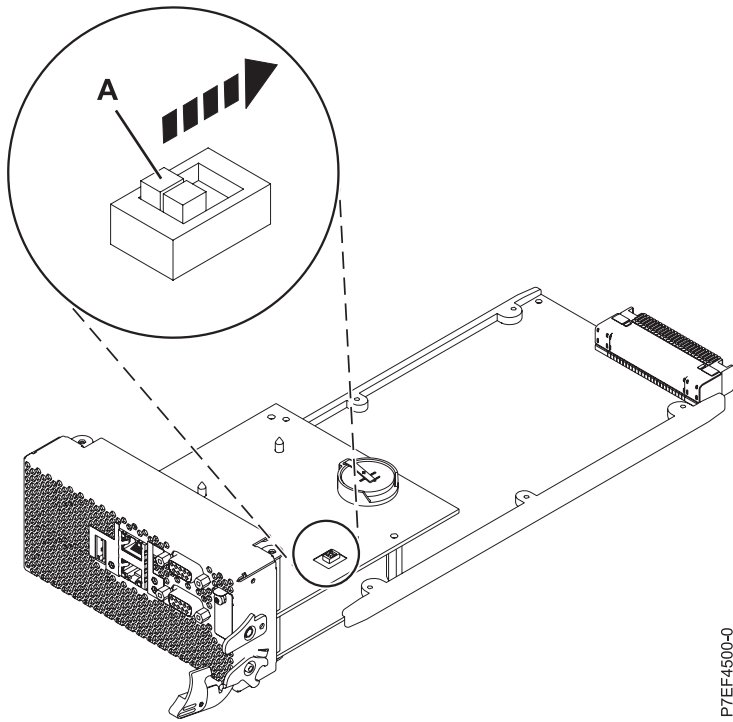

Figure 2. Resetting the service processor card settings
2. Move both the toggle-switches on the service processor card (**A**) from their current position to the opposite position, as shown in Figure 2 on page 4. This action resets the settings in the service processor card.